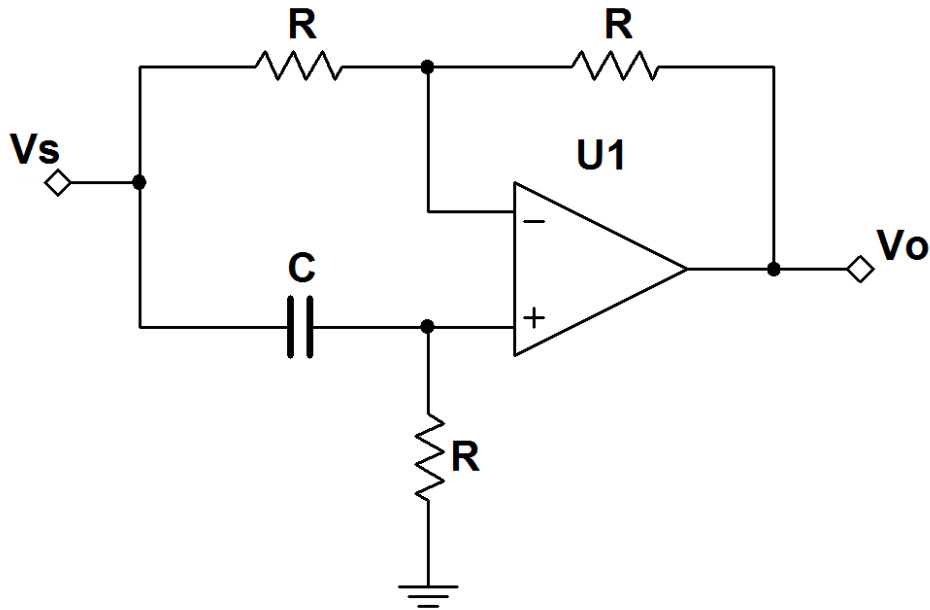

Figure 10.2: Circuit for Problem 10.2
1. Determine the transfer function $\mathbf{H}(s) = \mathbf{V}_o(s)/\mathbf{V}_s(s)$ of the circuit shown in Figure 10.2 on the next page. Write the transfer function in simplified standard form with symbolic values.
1. Enter the circuit of Figure 10.2 on the following page using the same component values listed in the problem statement. Drive the circuit input with a PULSE_VOLTAGE source configured to produce $v_s(t) = 4u(t)$. Delay the pulse by 1 ms to make the initial step transition visible.
1. Build the circuit of Figure 10.2 using the same component values listed in the problem statement. Drive the circuit input with A00 and use the ELVISmx Function Generator to produce a zero-to-four volt step transition with a period of 10 ms. Monitor the input voltage $v_s(t)$ with A10 and the output voltage $v_o(t)$ with A11.